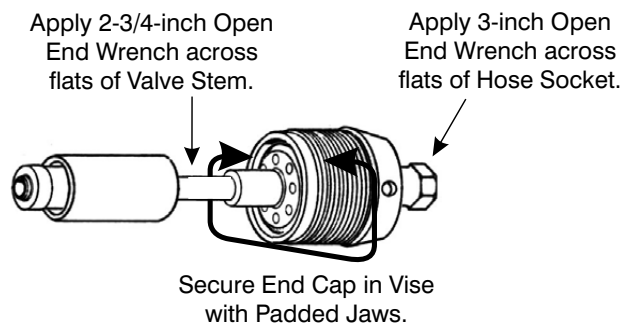

Figure 8-17. Loosen the Hose Adapter on the Valve Stem.
- b. Hold the Valve Stem (8) across its flats with a 2-3/4-inch open-end wrench. Refer to Figure 8-17.